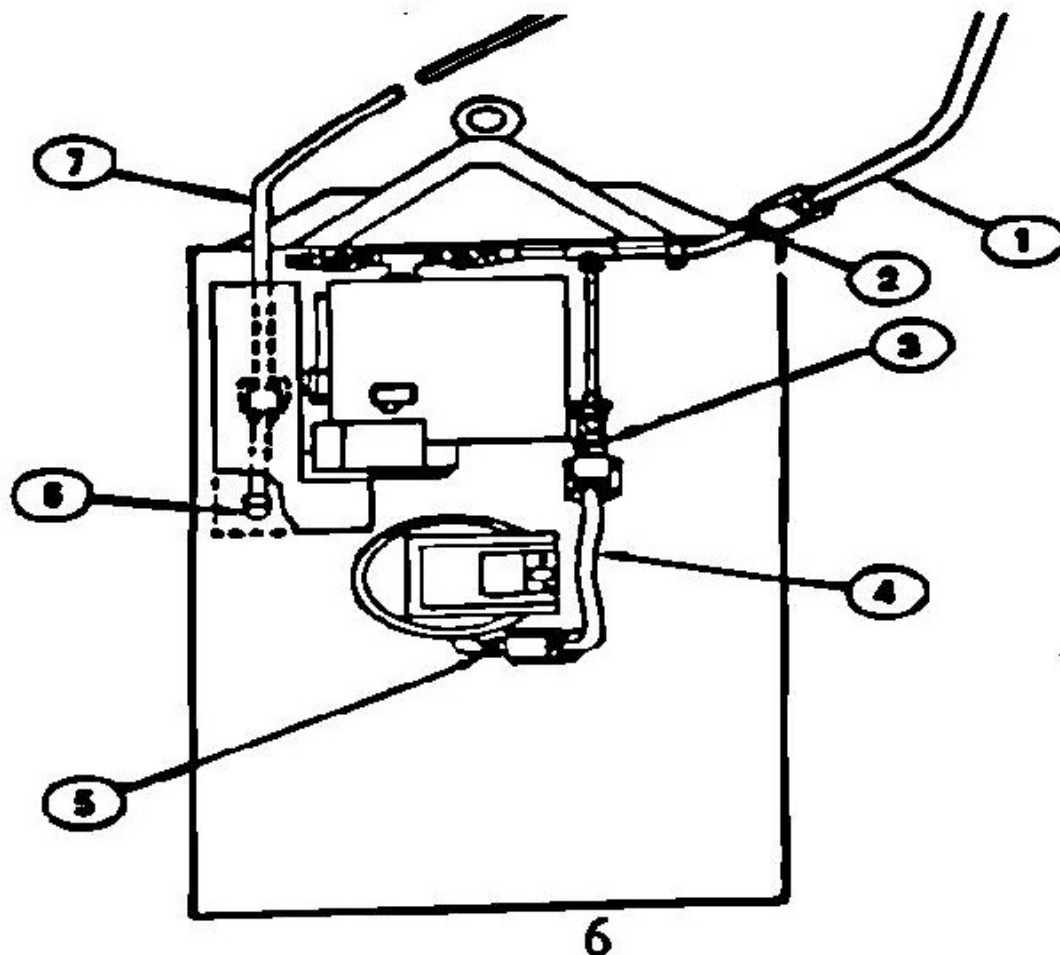
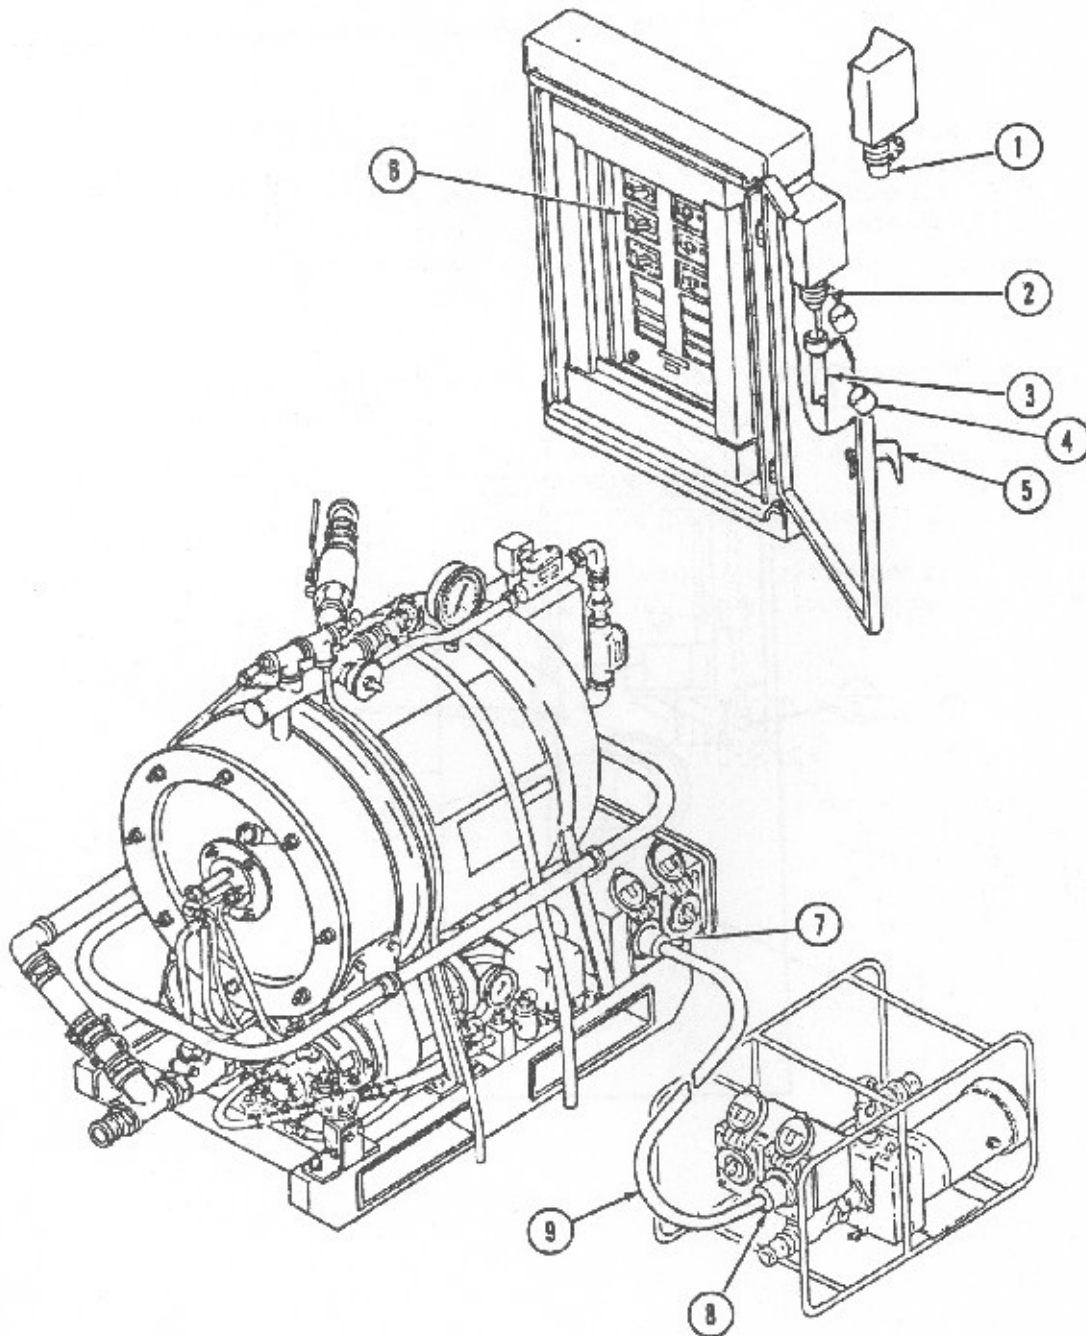
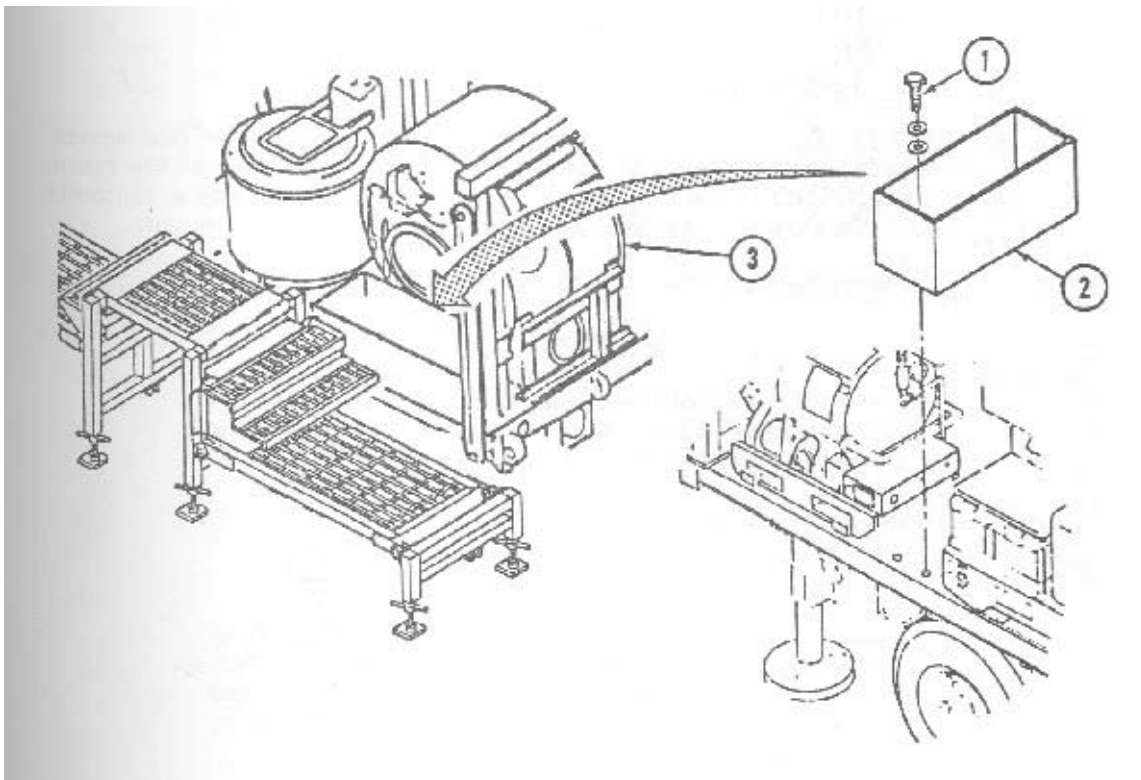

Figure 3-20
Figure 3-21
Figure 3-22
- n. Ensure that drain hose (4) is connected to extractor drain connection (5) and washer drain connection (3). (See Figure 3-20)
- o. Connect one 25-foot (7.6 m), 1 1/2-inch diameter drain hose (7) to washer drain and route the hose to a drain field.
- p. Connect one 25-foot (7.6 m), 1 1/2-inch diameter drain hose (1) to pre-extraction bin drain and route the hose to a drain field.
6. Install the electric power cables. (See Figure 3-21)
- f. Ensure water heater load limit switch is in the OFF position. (See Figure 3-21)
- b. Remove dryer bin (2) and place it in front of dryer assembly (3).
- c. Install bolts and washers (1) removed in the same location from which they were removed. (See Figure 3-22)